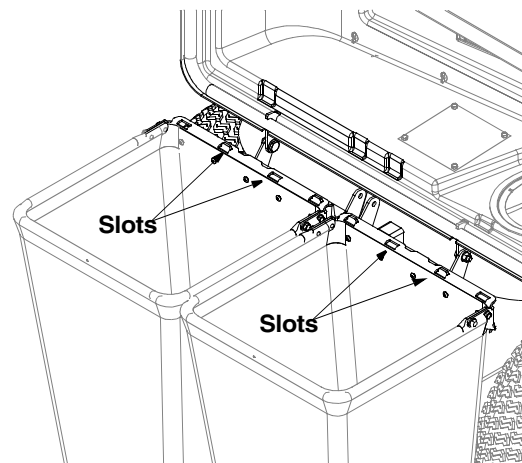

Figure 5
- Place the grasscatcher cover assembly in position so that the support tube rests on the right side of the mounting bracket assembly. Allow the plastic cover to rest in the "open" position. See Figure 5.
- Attach the grass bags using the slots shown in Figure 5. Close the grasscatcher cover.